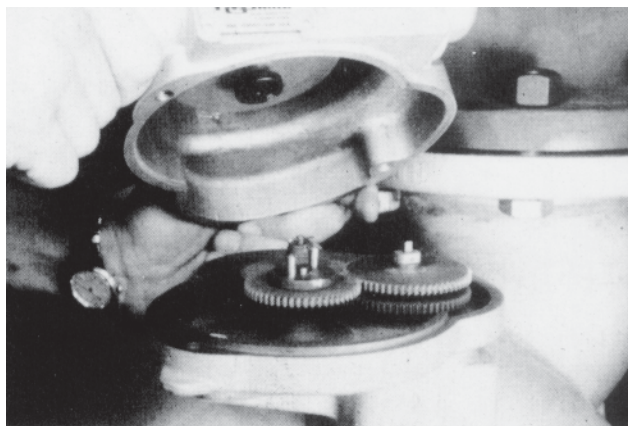

Figure 6 –Removing Counter Adapter
2. Lift off adapter, Figure 6.